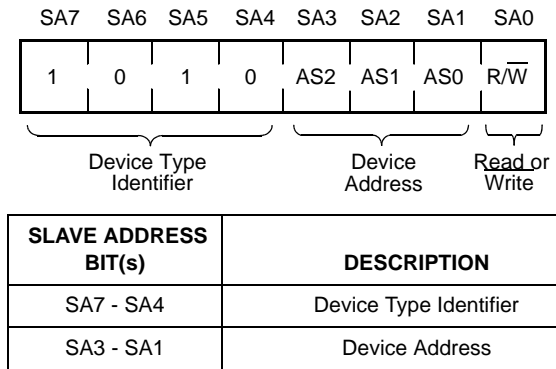

FIGURE 13. SLAVE ADDRESS (SA) FORMAT
The device responds with an ACK after recognition of a START condition followed by a valid Slave Address byte. A valid Slave Address byte must contain the Device Type Identifier 1010, and the Device Address bits matching the logic state of pins A2, A1, and A0. See Figure 13.
Following a START condition, the master must output a Slave Address Byte (Refer to Figure 13). This byte includes three parts:
- The LSB (SA0) is the R/W bit. This bit defines the operation to be performed on the device being addressed. When the R/W bit is “1”, then a Read operation is selected. A “0” selects a Write operation (Refer to Figure 13)